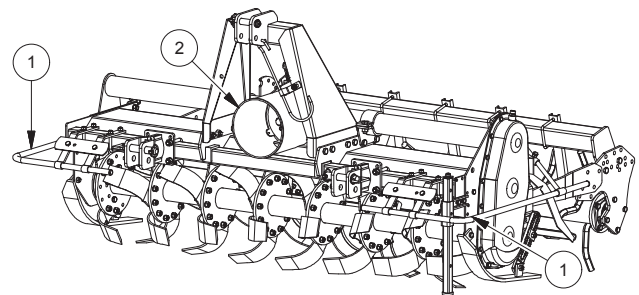

FIG. 20
- PTO guard tractor side (2, "Fig. 20").
- Protective tubes against access to the hoes area (1, "Fig. 20").
- Driveshaft Protections (3, "Fig. 20")